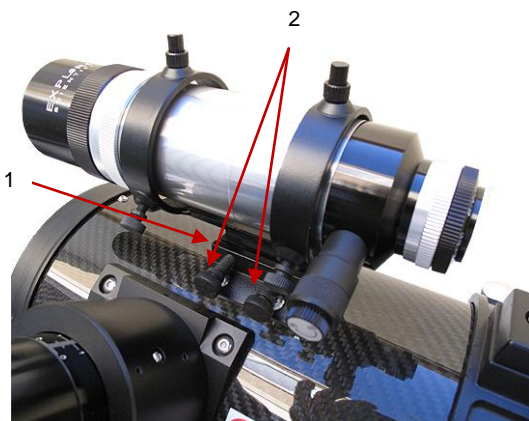

Fig. 3, Dovetail and Attachment Screws
1. Slide the track on the bottom of the finder scope into the slot in the finder scope mounting assembly (**1, Fig.3**). To secure the finder scope to the mounting assembly, tighten the two thumbscrews (**2, Fig. 3**) to a firm feel only.